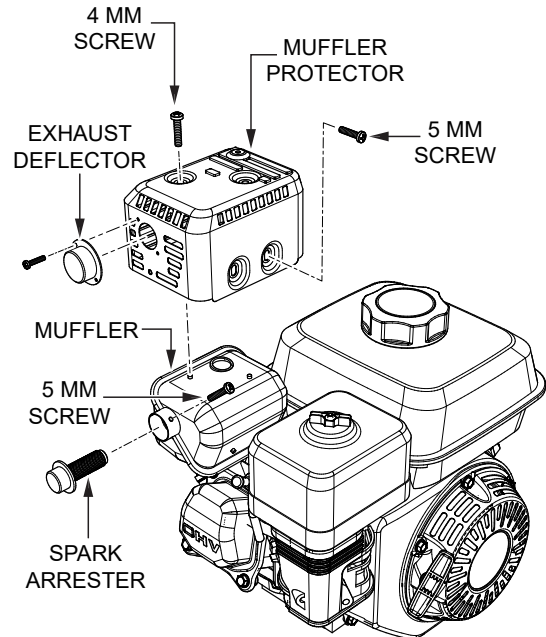

Figure 41. Spark Arrester
1. Remove the three 4 mm screws securing the exhaust deflector (Figure 41) to the muffler protector, then remove the exhaust deflector.
2. Remove the four 5 mm screws from the muffler protector (Figure 41), then remove the muffler protector.